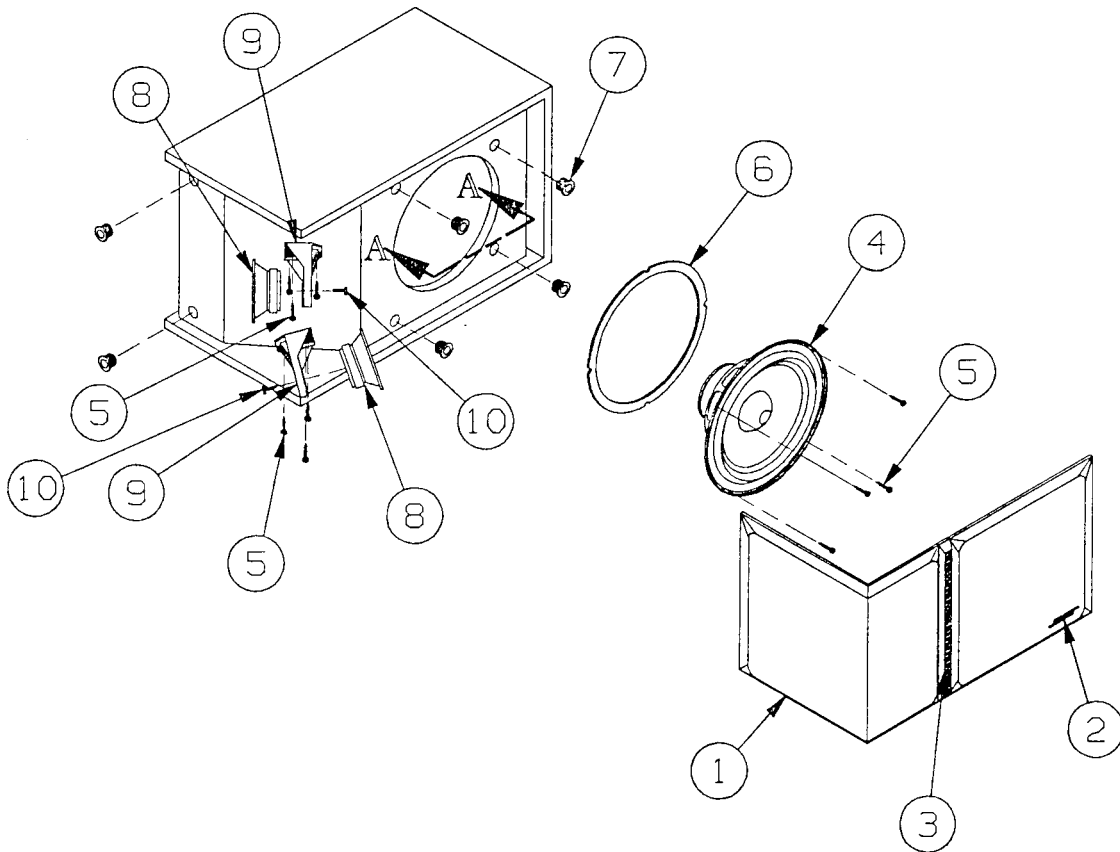

FIGURE 3
A. The upper and lower tweeters are mounted on brackets. Refer to **Figure 3**. Remove one (1) screw which secures either tweeter to its bracket. Lift the tweeter away from the bracket and cut the wires connected to the tweeter as close to the tweeter terminals as possible. Strip the wires and connect to the replacement tweeter. The tweeters should be wired as follows:
A. The grille can only be remounted one way (see **Figure 3**). Align the grille feet with the 6 grille fasteners. Press in lightly until the grille feet are engaged by the grille fasteners. The grille assembly should be flush with the front and side of the cabinet. The nameplate should be located near the bottom side of the grille. See **Figure 3**.
301 Series III Parts List (Figure 3)
Crossover Parts List (Figure 3)